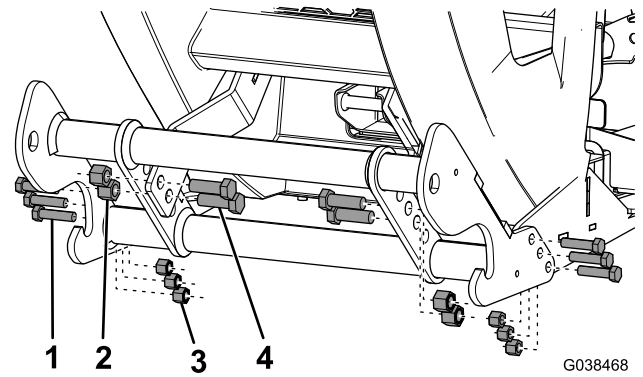

Figure 11
8. Secure the pushbeam to the brackets using 4 bolts (1/2 inch) and 4 locknuts (1/2 inch) as shown in Figure 11. Torque the bolts to 31 N·m (23 ft-lb).
- Secure the pushbeam to the vehicle frame using 6 bolts (3/8 x 1-1/2 inch) and 6 locknuts (3/8 inch) as shown in Figure 11. Torque the bolts to 76 N·m (56 ft-lb).
- 11. Secure the pushbeam to the brackets using 4 bolts (1/2 inch) and 4 locknuts (1/2 inch) as shown in Figure 11. Torque the bolts to 31 N·m (23 ft-lb).
- 12. Secure the pushbeam to the vehicle frame using 6 bolts (3/8 x 1-1/2 inch) and 6 locknuts (3/8 inch) as shown in Figure 11. Torque the bolts to 76 N·m (56 ft-lb).